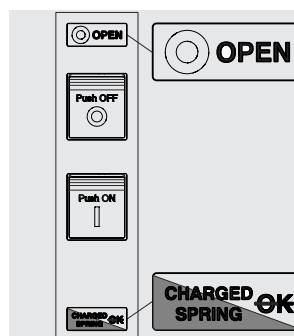

Figure 36
5. Circuit-breaker open with springs charged and not ready to close (see Figure 36). This state occurs in the following cases: